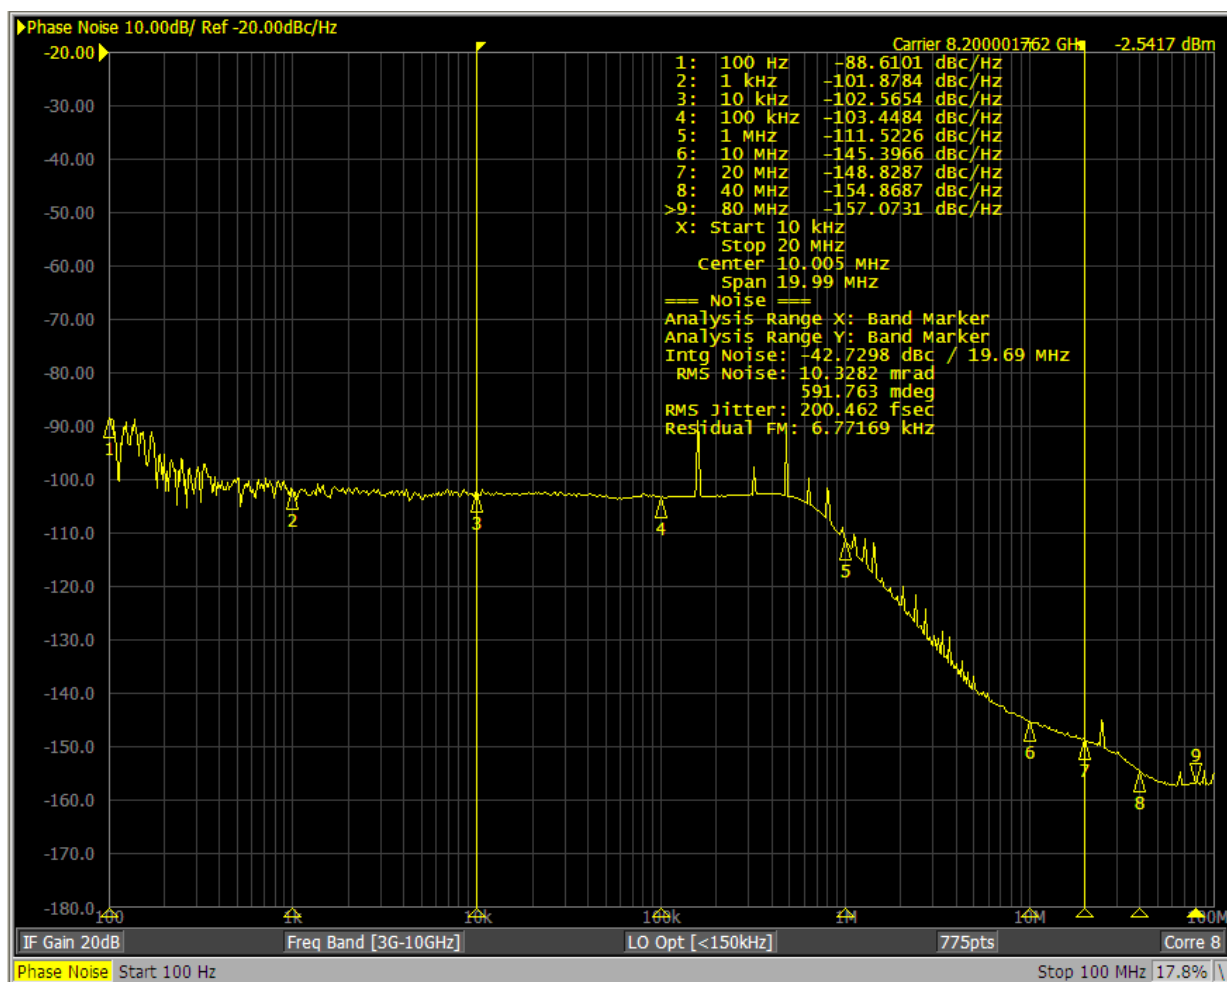
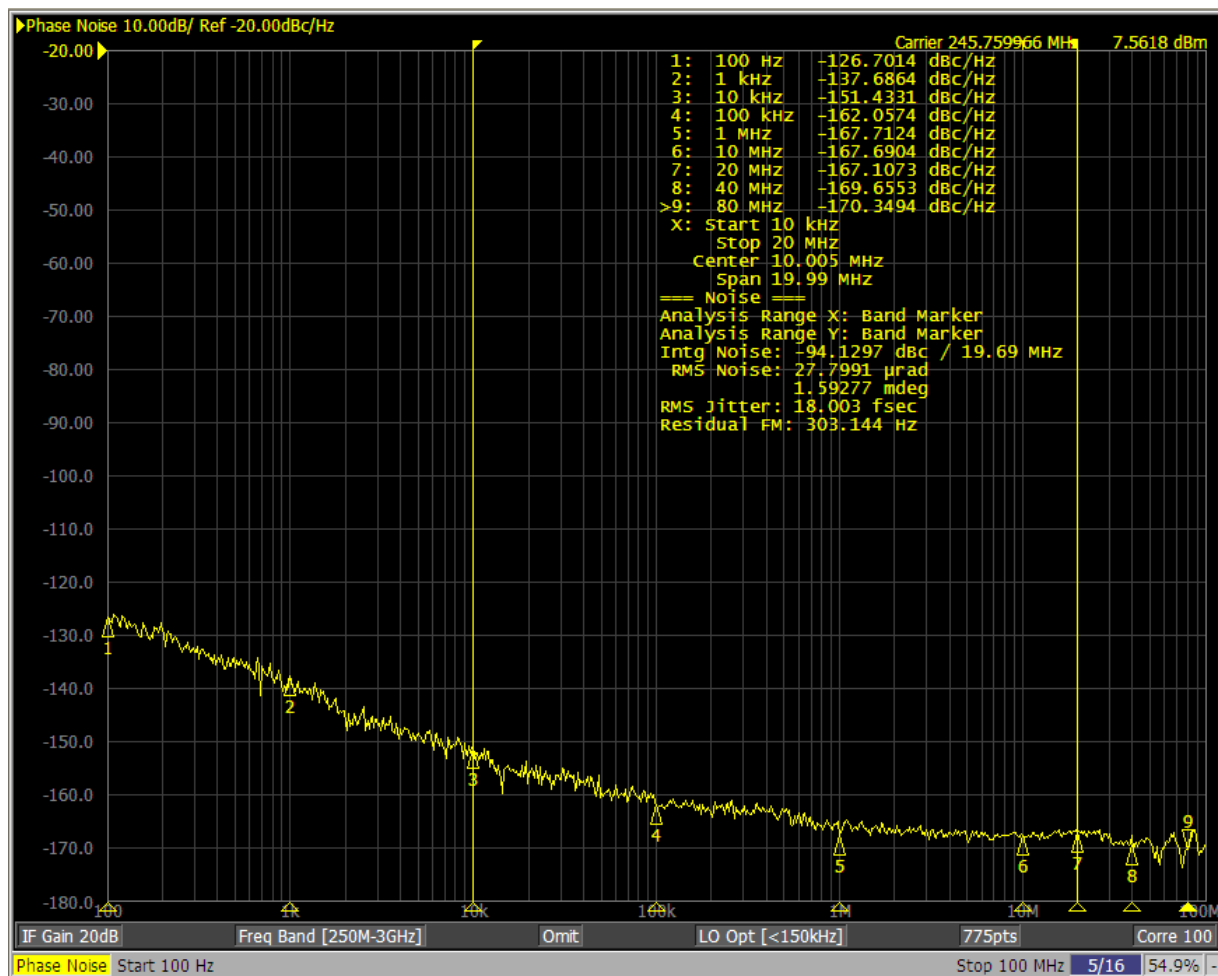

Figure 22. Expected Performance of 8200MHz Output without Bleeder Current from Example 2
Figure 24. Phase Noise Performance of 245.76MHz Input Reference Clock
- b. Charge pump current can be used to vary the loop bandwidth, therefore optimize phase noise and/or integrated RMS jitter. Set Pmos = 8.5mA, Nmos = 8.5mA to get the performance shown in the phase noise plot in Figure 22.
Phase noise measurement results shown in Figure 22, Figure 24, and Figure 25 were obtained with the input reference clock from a bench signal generator. Because the in-band phase noise performance of 8V97003 RF/Microwave Synthesizer is dictated by the phase noise performance of the input reference, the input reference's phase noise performance is provided in Figure 26.